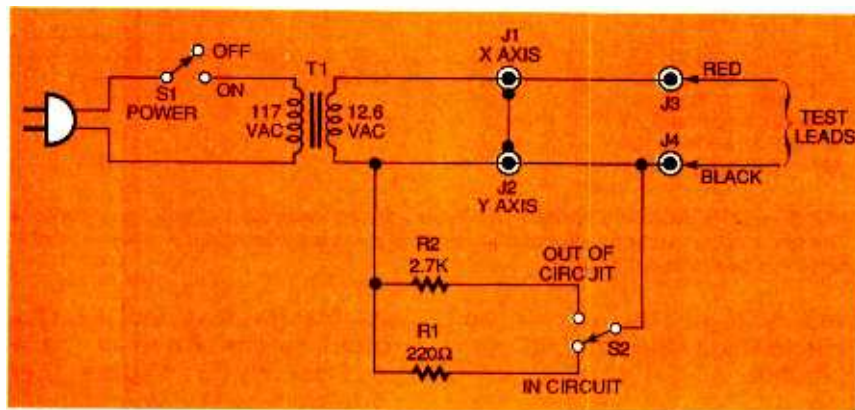
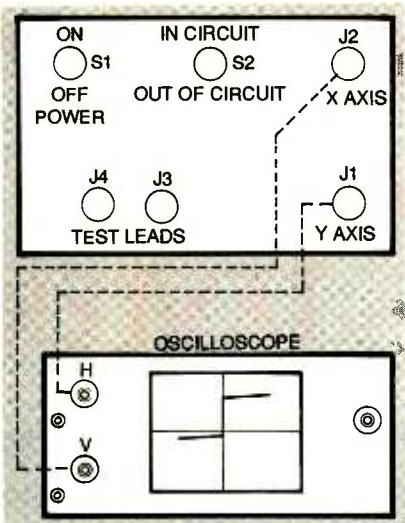

FIG. 1 — FULL SCHEMATIC OF THE instrument. When you use it to check components it creates a specific signature waveform on your scope.
FIG. 2 — HOW TO CONNECT THE TESTER to your scope.
The circuit is shown in Figure 1.
troubleshooting will be that much easier. Anyway, build your test box as shown, then connect it to the components you wish to test as shown in Fig. 2. The polarity of the leads will
This test box allows you to place an AC voltage across the DUT (Device Under Test) and measure the voltage across it and the current through it simultaneously. As you can see from the circuit diagram in Fig. 1, the black test lead can be considered to be the ground lead, and the red can be considered to be the positive or active test lead. Connect your oscilloscope as shown in Figure 2. For this explanation, let's assume that the DUT is a Zener diode with a reverse voltage rating of 6.3 volts. If this diode is hooked up as shown in Fig. 2, you can see that as the voltage becomes more positive on the red lead, the diode will allow the voltage to rise and there will be no current flow. This will cause the scope vertical input (Y) to rise, and it will go straight up, because there is no current flow.
As shown in Fig. 2, a fuel cell contains two electrodes separated by an electrolyte. Hydrogen (the fuel) is available at the anode and oxygen (the oxidizer in the chemical reaction) is at the cathode. As the two gases are applied to the elec-